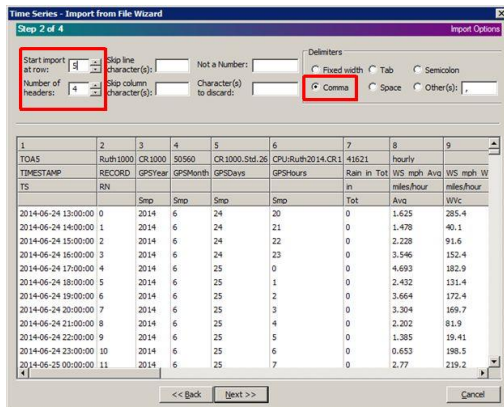

Figure SOP 11- 8. Import from File Wizard, step 2.
Figure SOP 11- 6. The Append To Logger Toolbox. The upper red box indicates how to select the raw data file to import. The lower box is used to define all column headers in the raw file.
- i. The first column contains the Date/Time (Figure SOP 11- 9). To configure the date/time, select the first column by clicking on the grey header fields. The column should become highlighted. Select the Date/Time Format from the drop-down menu. If the correct option is not available, manually type in the appropriate date/time format (i.e. yyyy-mm-dd HH:MM:SS). Select the time zone. Important: this is the time zone in which the data were collected